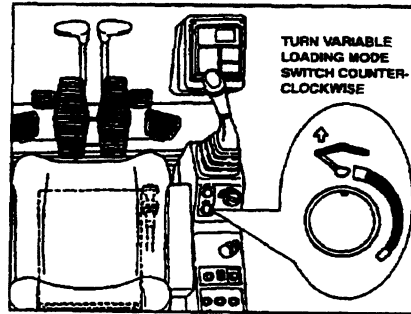

FIGURE 6.36
20. Return the Variable Loading Mode Switch back to the Left Limit by turning switch counter-clockwise. See Figure 6.36.